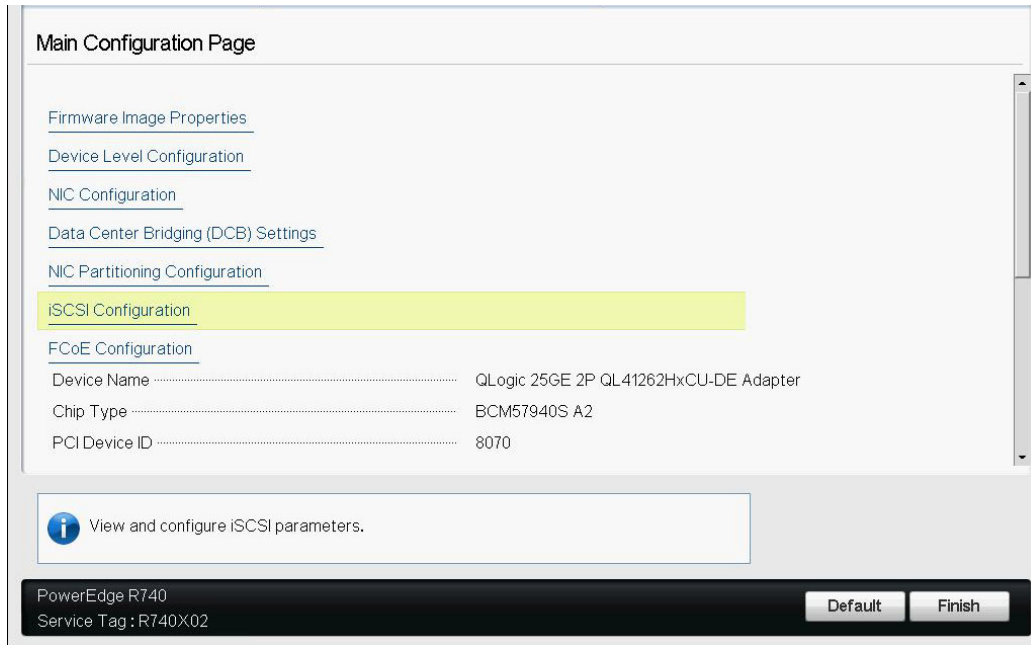

Figure 6-5. System Setup: iSCSI Configuration
1. In the Device HII **Main Configuration Page**, select **iSCSI Configuration** (Figure 6-5), and then press ENTER.